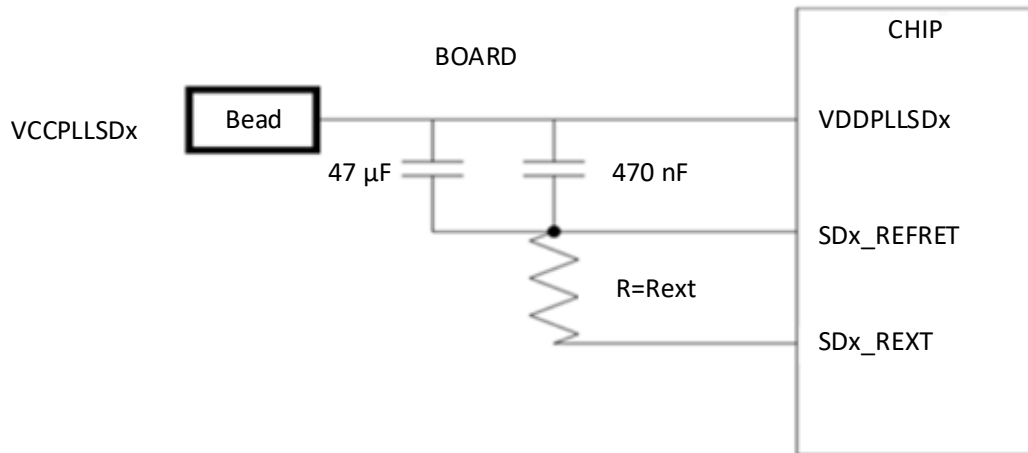

Figure 13.1. Example Connection to Analog Power and Reference Pins
- The power and ground traces should be short, and run close and parallel as far as possible, with large spacings to adjacent traces. On no account should any connection be made from VCCPLSDx or SDx\_REFRET directly to board power planes; only connect as described above and depicted in Figure 13.1.